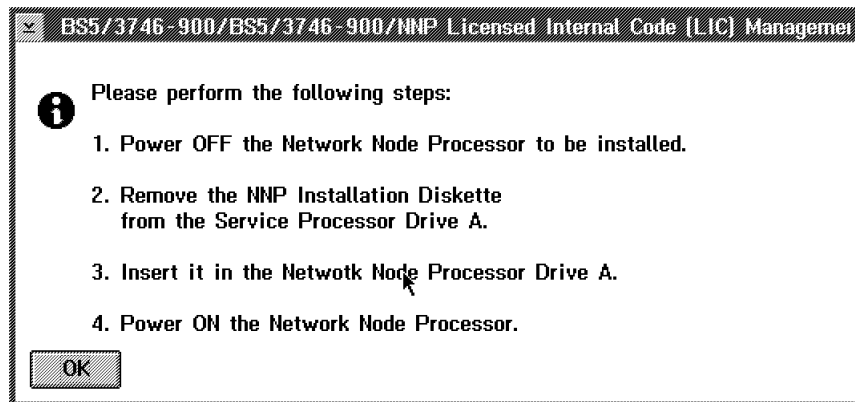

Figure 1-23. NNP-A Licensed Internal Code Management
12. ____ When the process is completed, record the following procedures listed on Figure 1-23, then click on **OK**.